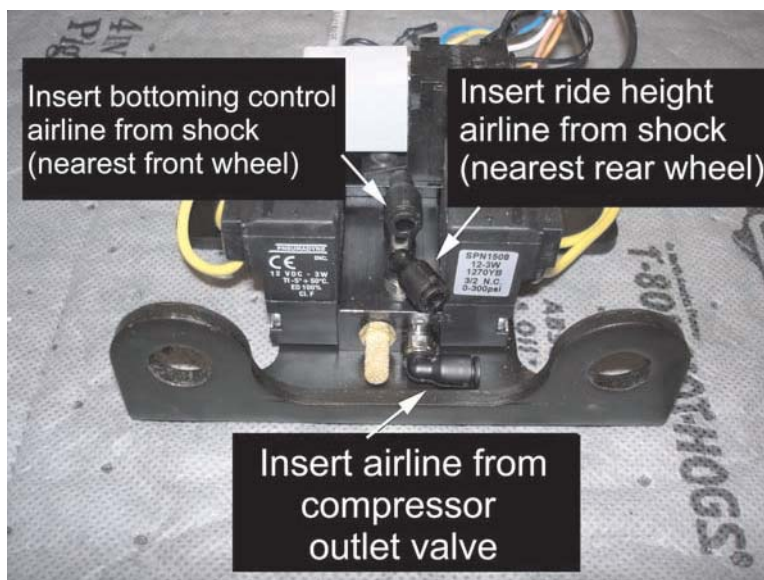

Figure 5
2. Plug in the airline from the compressor into the appropriate fitting (Fig. 5)
3. With the airlines from the Air Shock still connected to the shock, run them to the solenoid valve and hook up to appropriate fittings (Fig. 5) **It may be necessary to trim the length of the airlines.**